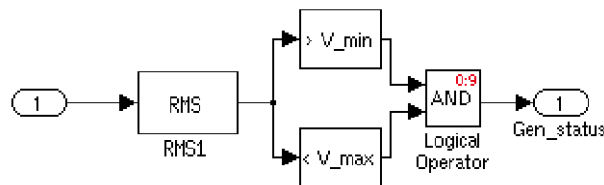

Fig. 3: Simulink block to monitor the generator's RMS voltage and detect violations of the desired range.
- To generate events for your BPCU, you will need to monitor each generator's output voltage and make sure that the RMS voltage is between  $V_{min}$  and  $V_{max}$ . As an example, you can implement such an RMS "sensor" out of Simulink standard library blocks, as shown in Fig. 3.  $Gen\_status$  is one if and only if the signal RMS voltage is in the desired range. Also, the RMS block in Fig. 3 requires a frequency parameter, which should be set to 400 Hz.